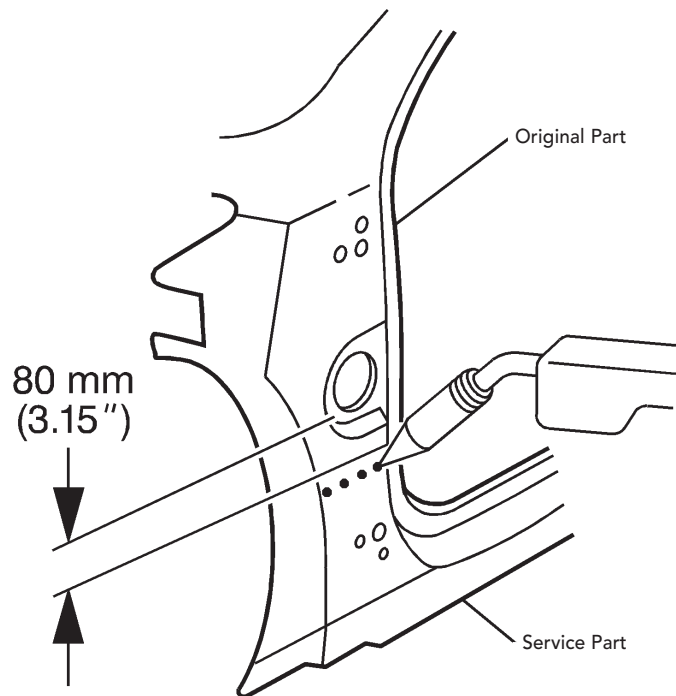
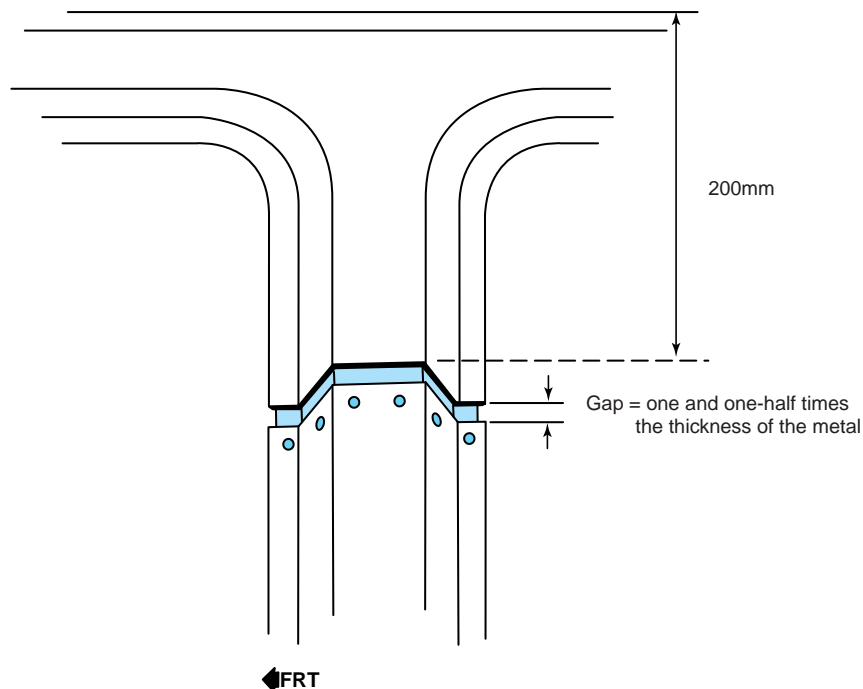

Fig. 4.23 — Sectioning of the outer door frame at the front hinge pillar
Fig. 4.24 — General sectioning of outer door frame
frame. (If sectioning the front hinge pillar, measure down 80mm (3-1/4inch) from the bottom of the large wiring harness hole in the hinge pillar (Fig. 4.23), if sectioning the center pillar, locate the sectioning joint 200mm (8inches) down from the edge of the roof gutter, and mark a horizontal line.) Cut the door frame along this line for sectioning (Fig. 4.24).
- 2 Cut a 50mm (2 inch), (100mm (4 inch) if sectioning the rocker panel area), piece from the unused portion of the service part for a backing plate. Remove the flange on each side of the backing plate so that it will fit behind the sectioning joint (Fig. 4.24).
- 4 Prepare the mating surfaces and position the backing plates with 25mm (1 inch), (leave 50mm (2 inches) exposed if sectioning the rocker panel area), of the backing plate exposed, and plug weld. Position the service part to overlap the exposed portion of the backing plate, check fit using three-dimensional measuring equipment, and plug weld accordingly (Fig. 4.24).